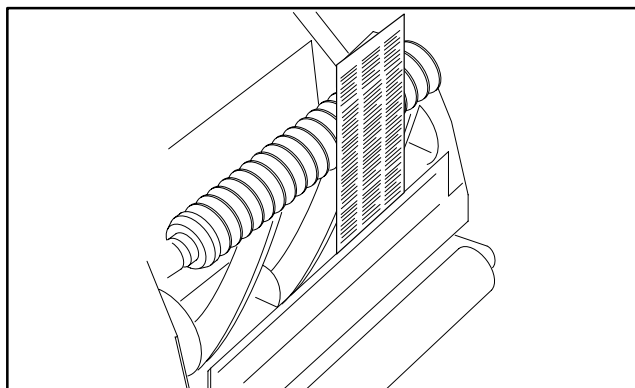

Figure 9
2. Tip cutting unit rearward to gain access to reel and bedknife (Fig. 9).